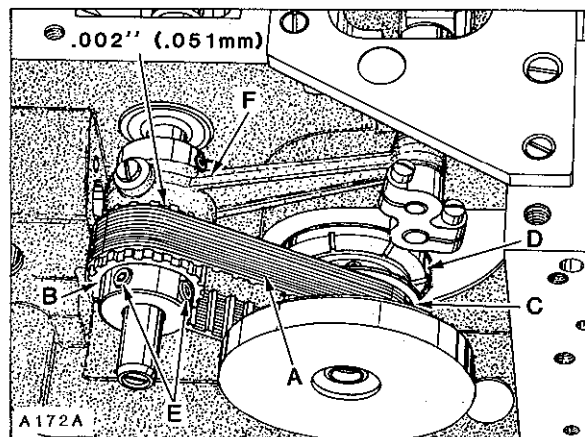
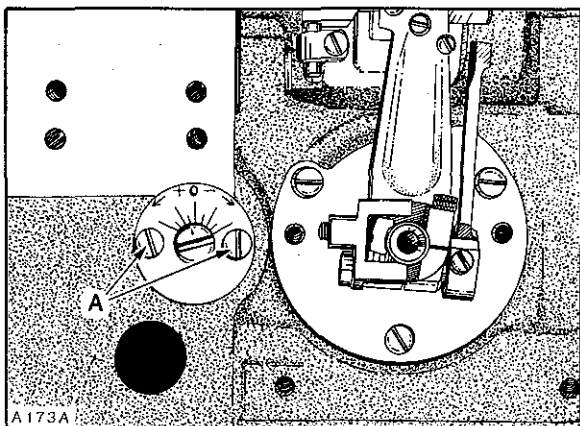

Fig.4
Fig.5
NOTE: End cover has been removed for clarity in Figure 4, but **MUST BE IN POSITION WHILE MAKING THE FOLLOWING ADJUSTMENTS.**
Looper drive belt, (A, Fig. 4) has proper tension if, when turning handwheel in operating direction to position looper in the center of its (right to left) travel..... there is no noticeable (right to left) play in the looper mechanism. There should be approximately 1/8 inch (3.2mm) deflection in looper drive belt when pressing firmly with thumb, midway between sprockets (B and C). Adjustment can be made by loosening two screws (A, Fig. 5) and turn looper module (D, Fig. 4) counterclockwise to tighten belt or clockwise to loosen, as viewed in Figure 4. Retighten screws (A, Fig. 5).
Rotate handwheel in REVERSE direction until pin in looper holder again makes contact with gauge plate and note the reading on the gauge. A variation of (1) graduation on the scale is permissible. If the reading is above "O", loosen screws (E, Fig. 4) and turn rear looper drive sprocket (B) towards the operator (clockwise as viewed in Figure 4). If the reading is below "O", turn sprocket away from operator (counterclockwise as viewed in Figure 4). Temporarily snug screws.
Rotate handwheel in OPERATING direction until pin in looper holder contacts gauge plate and note the reading on scale. If the reading is above "O", loosen screws (E) and turn sprocket (B) away from operator (counterclockwise as viewed in Figure 4). If the reading is below "O", turn sprocket towards the operator (clockwise as viewed in Figure 4). Temporarily snug screws.
Turn handwheel in reverse direction to position looper point even with the left side of RIGHT needle and check the distance from the eye of needle to the bottom of looper blade. If the distance was greater when handwheel was turned in operating direction, (as viewed in Sketch B) loosen screws (E, Fig. 4) and turn rear looper drive sprocket (B) away from operator (counterclockwise as viewed in Figure 4). If the distance was greater when handwheel was turned in reverse direction, (as viewed in Sketch C) turn sprocket towards the operator (clockwise as viewed in Figure 4). Temporarily snug screws.
Before tightening screws (E, fig. 4) securely, be sure to have .002 inch (.051mm) clearance between sprocket (B) and needle guard drive connecting rod (F).